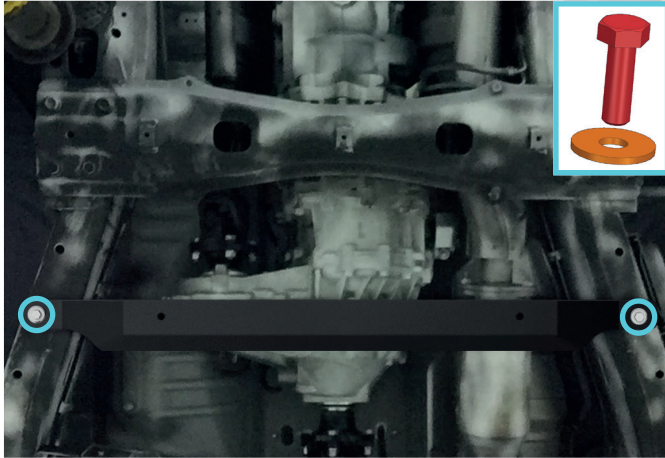

Fig. 1
1. Install mounting bracket (item 2) to vehicle frame using bolts M8x1.25x25 (item A) with washers M8 (item B) as shown in fig. 1.